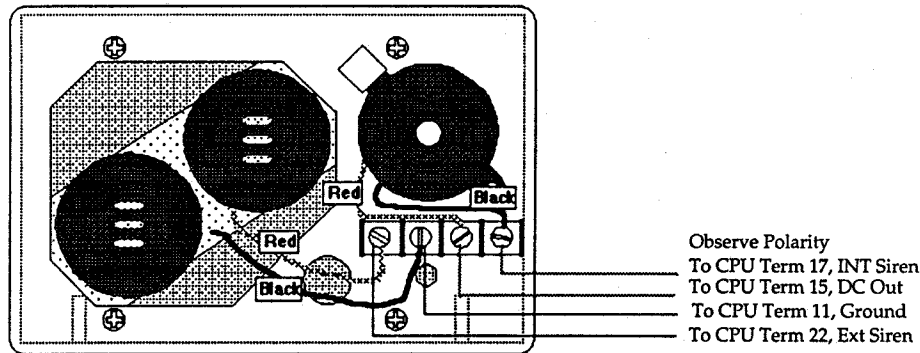

Figure 3.8. Connecting the Siren
1. Run cable from the CPU to the siren location. Use 22-gauge or larger 4-conductor stranded wire (see Figure 3.8).